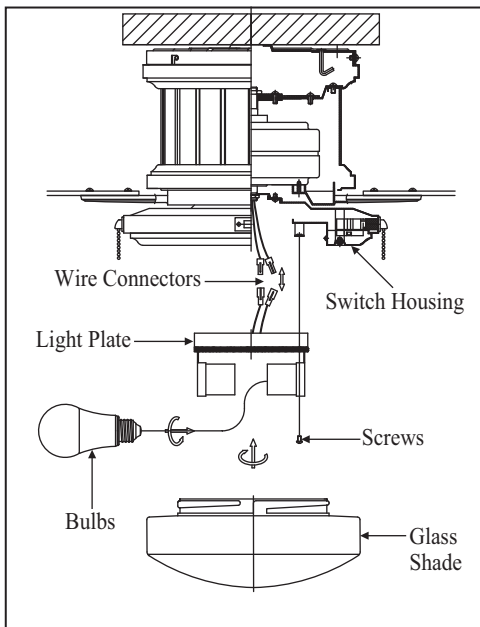

Figure 12
2. Carefully push all wires back into the switch housing, then install the light plate onto the switch housing with 3 screws provided. Be sure to tighten all screws. (Fig. 12)
3. Install 2 x 9.5W LED bulbs (included). (Fig. 12)
4. Raise glass shade up against the light kit and secure it to fan by turning glass clockwise until snug. DO NOT OVERTIGHTEN. (Fig. 12)